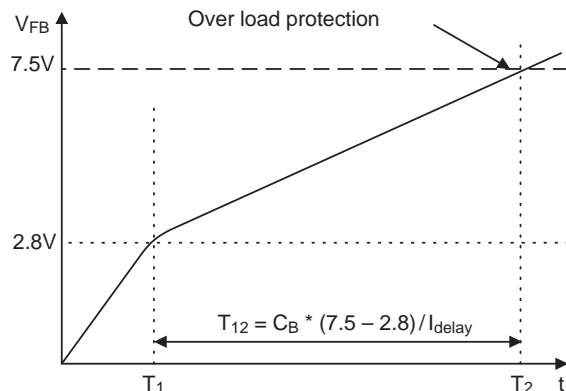

Figure 13. Over Load Protection
**4.1 Over Load Protection (OLP):** Overload is defined as the load current exceeding its normal level due to an unexpected abnormal event. In this situation, the protection circuit should trigger to protect the SMPS. However, even when the SMPS is in the normal operation, the over load protection circuit can be triggered during the load transition. To avoid this undesired operation, the over load protection circuit is designed to trigger after a specified time to determine whether it is a transient situation or an overload situation. Because of the pulse-by-pulse current limit capability, the maximum peak current through the SenseFET is limited, and therefore the maximum input power is restricted with a given input voltage. If the output consumes more than this maximum power, the output voltage ( $V_o$ ) decreases below the set voltage. This reduces the current through the optocoupler LED, which also reduces the optocoupler transistor current, thus increasing the feedback voltage ( $V_{fb}$ ). If  $V_{fb}$  exceeds 2.8V, D1 is blocked, and the 5 $\mu$ A current source starts to charge  $C_B$  slowly up to  $V_{CC}$ . In this condition,  $V_{fb}$  continues increasing until it reaches 7.5V, then the switching operation is terminated as shown in Figure 13. The delay time for shutdown is the time required to charge  $C_B$  from 2.8V to 7.5V with 5 $\mu$ A. In general, a 20–50ms delay time is typical for most applications. OLP is implemented in auto restart mode.